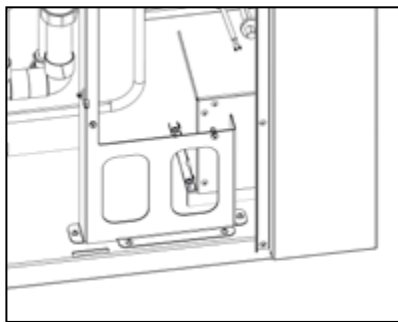

Figure 8-5: Terminal block cover fixing screws
10. Locate the two terminal block cover fixing screws. Refer to Figure 8-5.